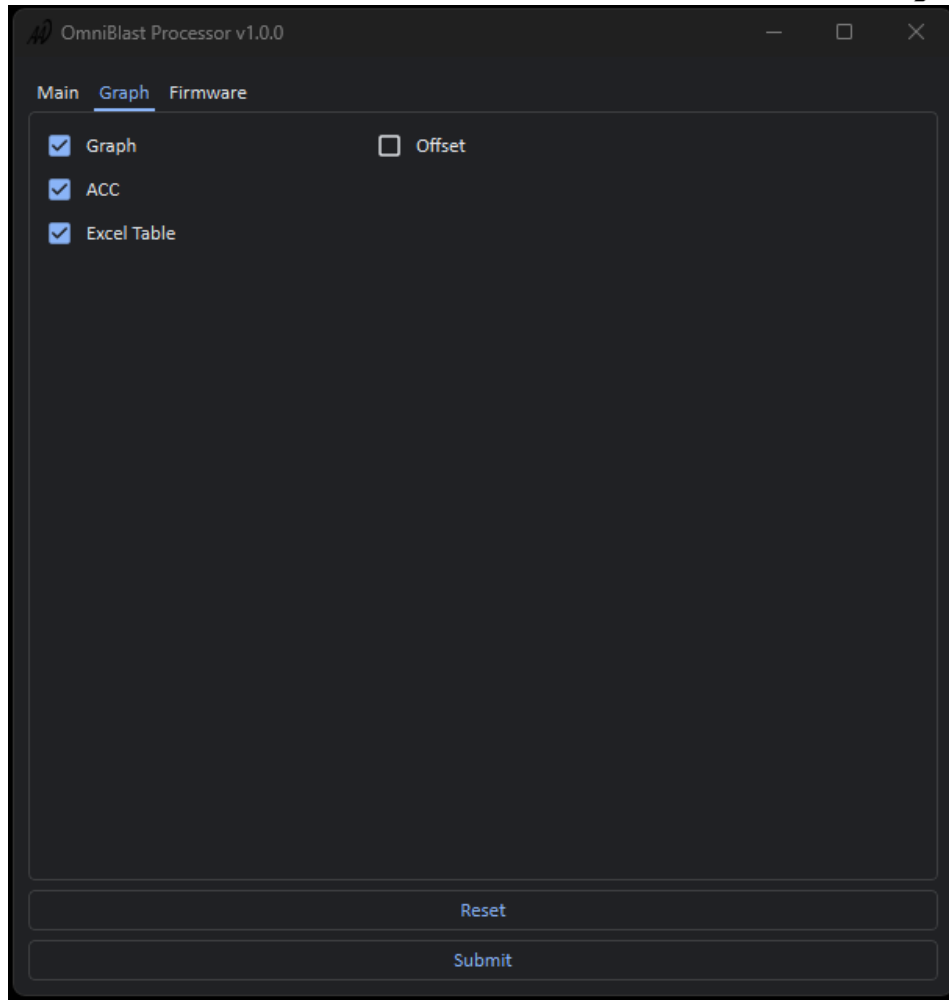

Figure 23. The graph tab has options for how to process and display the data.
- c) Once the sensor folder is selected, the OmniBlast™ Processor will identify if blast events are in the folder (**Figure 23**). One can select process all, process range, or process one to either process all the detected files, a range of detected files, or a single selected file, respectively.